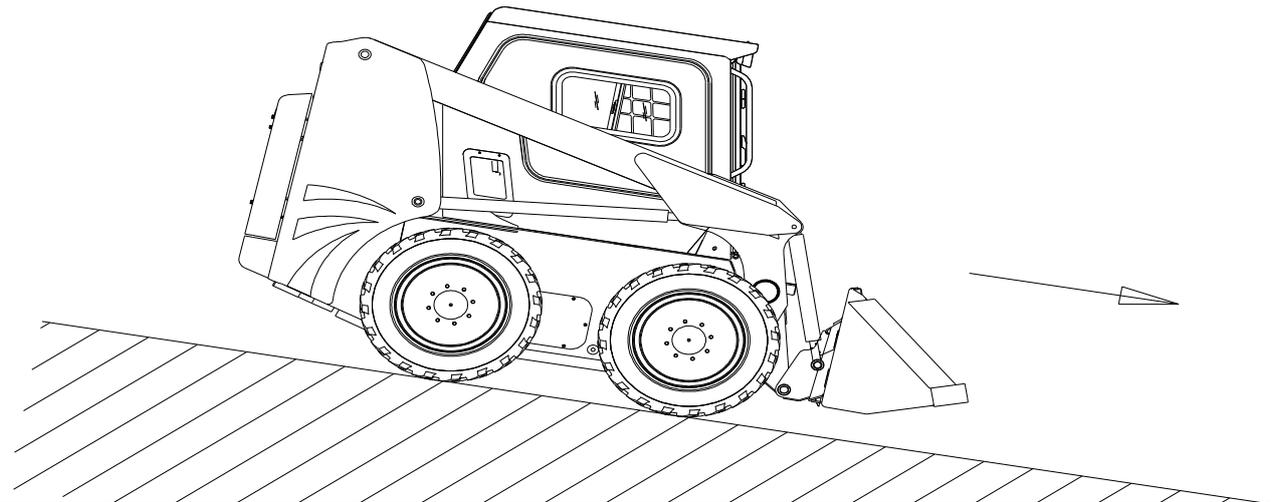

Fig. 26 Running Downhill When the Bucket is Empty
1. If the bucket is empty, you should drive the loader positively downhill, and reverse the loader uphill when the loader runs uphill (as shown in Fig. 25 and Fig. 26).